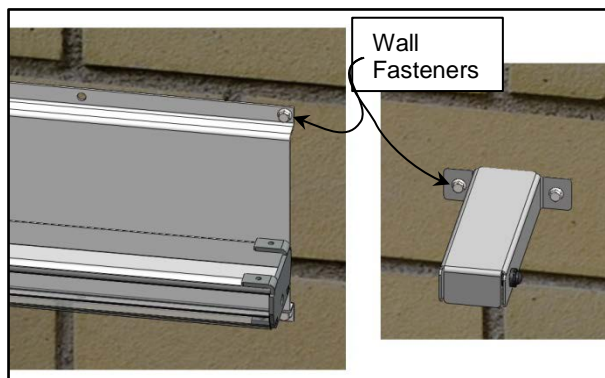

Figure 18
3. Check that the mounting hardware securing the door header assembly and photo eye mounting brackets to the wall are in place and tight. Tighten and replace any loose or missing hardware, such as wall fasteners, floor anchors, nuts, bolts, and screws. (See Figure 18)